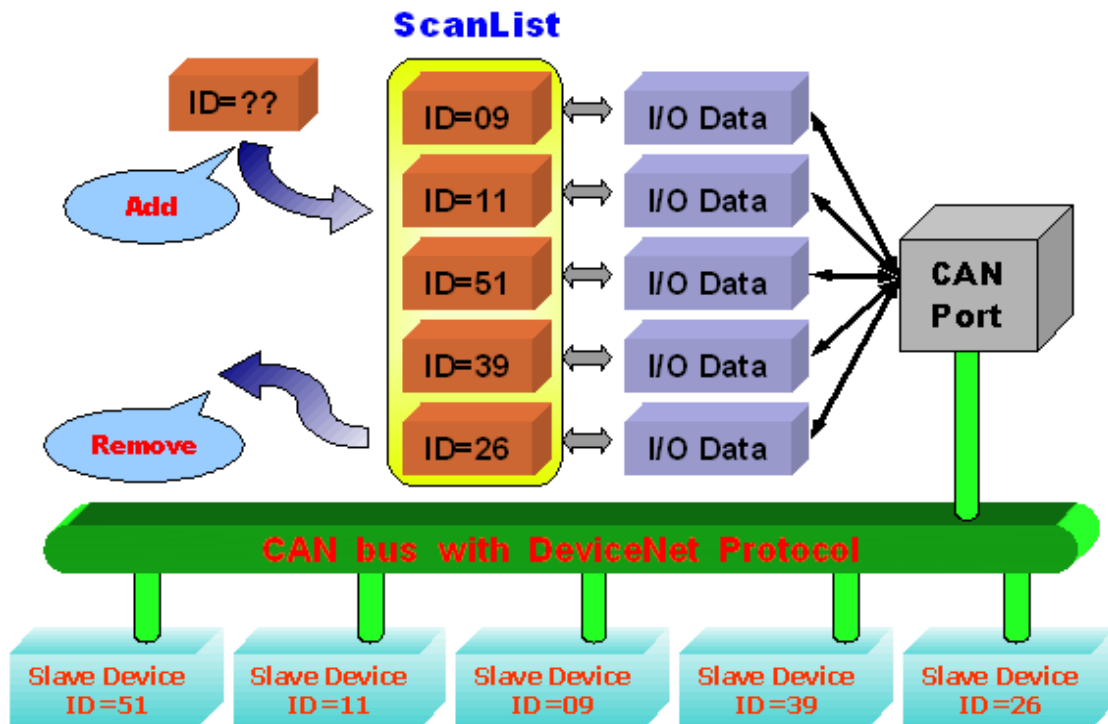

Figure 1.7 ScanList data structure
The PISO-DNM100(U) firmware has a “ScanList” to store the remote slave devices information. After power off, the information still exists in the EEPROM. When the users turn on the PC next time, the “ScanList” will be loaded from EEPROM. The users can easily use the DLL functions to configure it, including adding devices or removing devices. It works as shown in Figure 1.7. There is more information about the library functions in chapter 4.